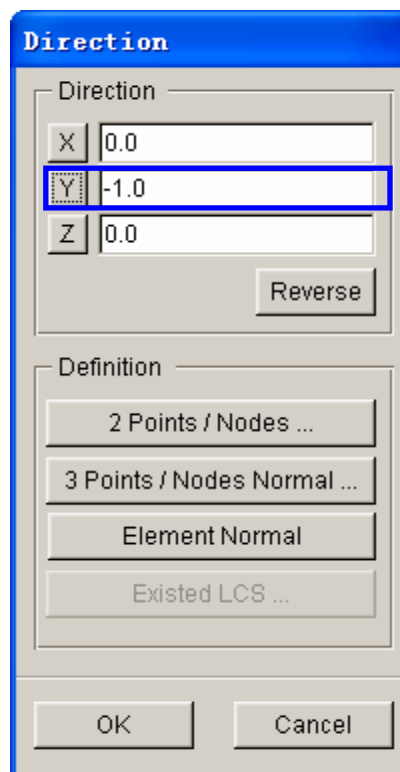

Figure 3.19 Direction dialog box
- Now, let's define the working direction of up_die. Click **...** button of working direction field to open the DIRECTION dialog box illustrated in Figure 3.19.